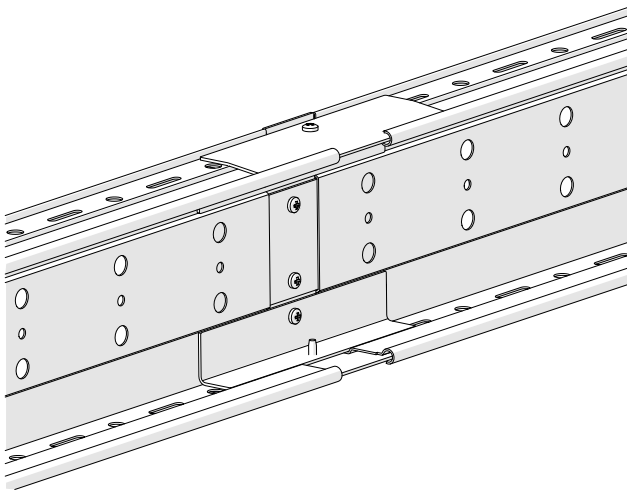

Fig. 51: Support profile rails with repair kit
5. Screw the plates (1 and 2) together and place them on the support profile rail from the rear (see Fig. 51).
6. Install the brackets (3) from the front (see Fig. 51).
7. Place the plates (4) in the gap of the tubular support profile area and install (see Fig. 51).